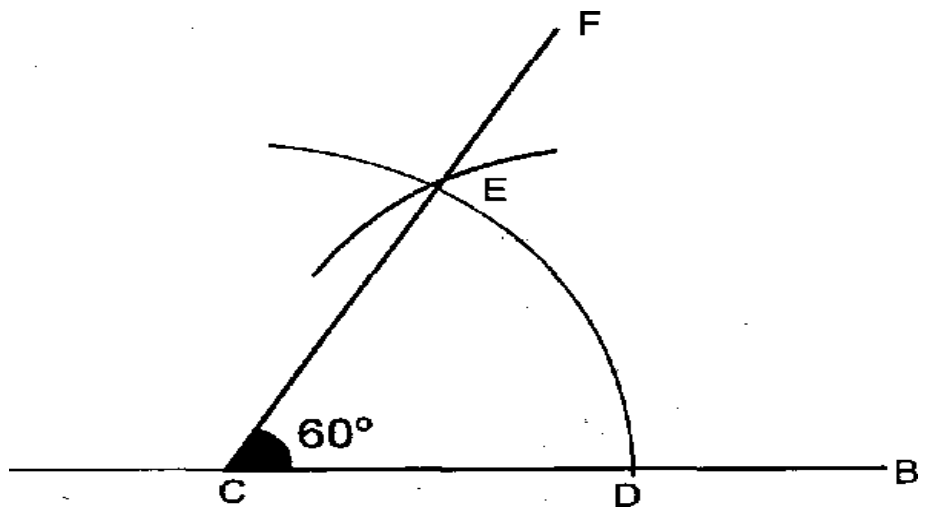

Fig 4.1
- i. Construct an angle of  $60^\circ$ , as in Fig 4.1